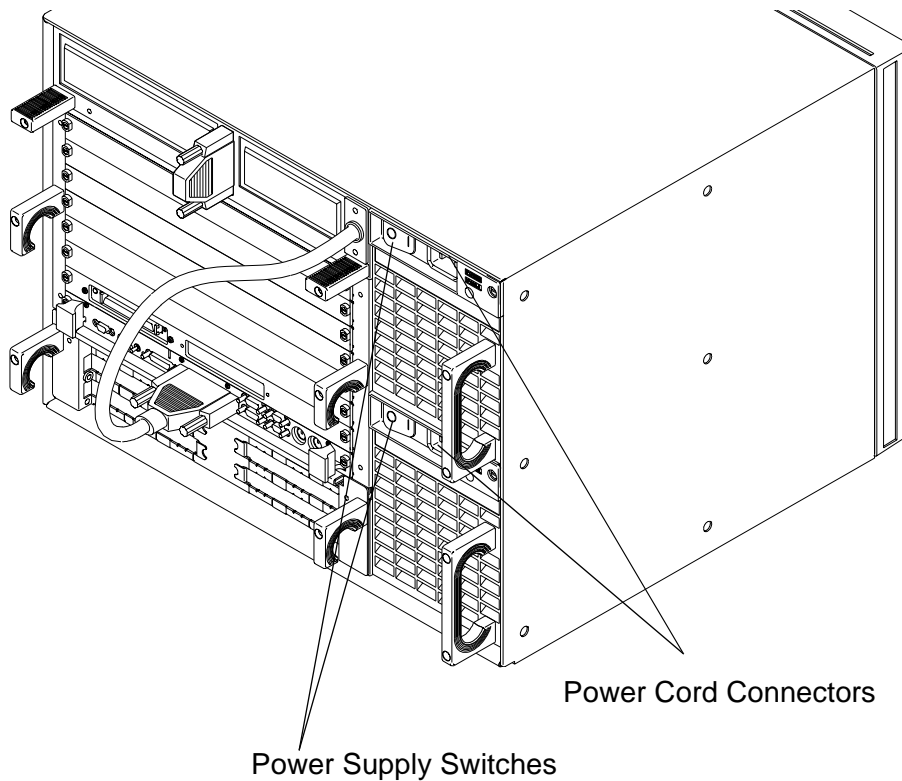

Figure 9-1
- 1 Switch the power switches on both power supplies to the 1 (ON) position (see Figure 9-1).